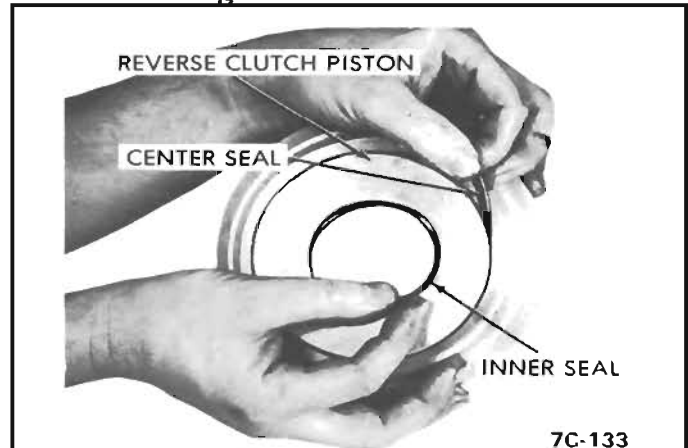

Figure 43 Reverse Clutch Piston Center & Inner Seal Removal
2. Remove low and reverse clutch piston center and inner seal. See Figure 43.